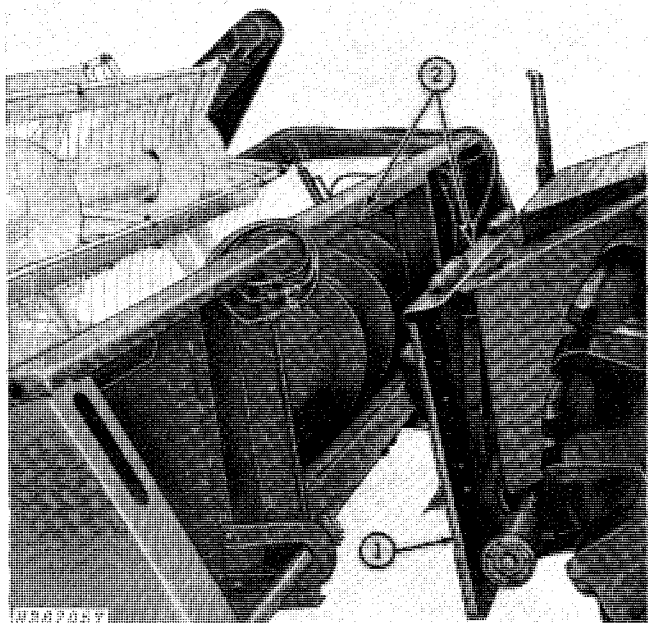

Fig. 77-Mounting Platform
1. Lower feeder house (Fig. 77).